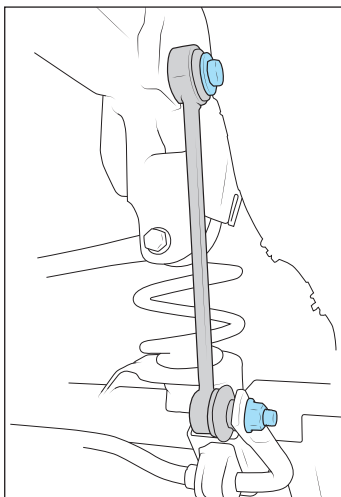

Figure 5
7. Remove sway bar endlinks (fig. 5).